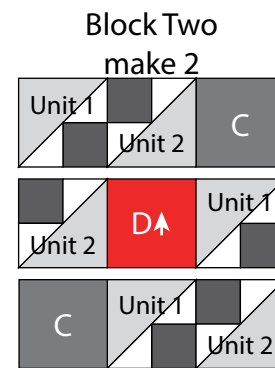

Fig. 17
11. Sew together (1) Unit 1 square, (1) Unit 2 square and (1) $6\frac{1}{2}$ " Fabric C square, in that order from left to right, to make the top row (Fig. 17).
12. Sew together (1) Unit 2 square, (1) $6\frac{1}{2}$ " Fabric D square and (1) Unit 1 square, in that order from left to right, to make the middle row (Fig. 17).
13. Sew together (1) $6\frac{1}{2}$ " Fabric C square, (1) Unit 1 square and (1) Unit 2 square, in that order from left to right, to make the bottom row (Fig. 17).
14. Sew together the (3) rows from Steps 11-13 lengthwise to make (1) $18\frac{1}{2}$ " Block Two square (Fig. 17).